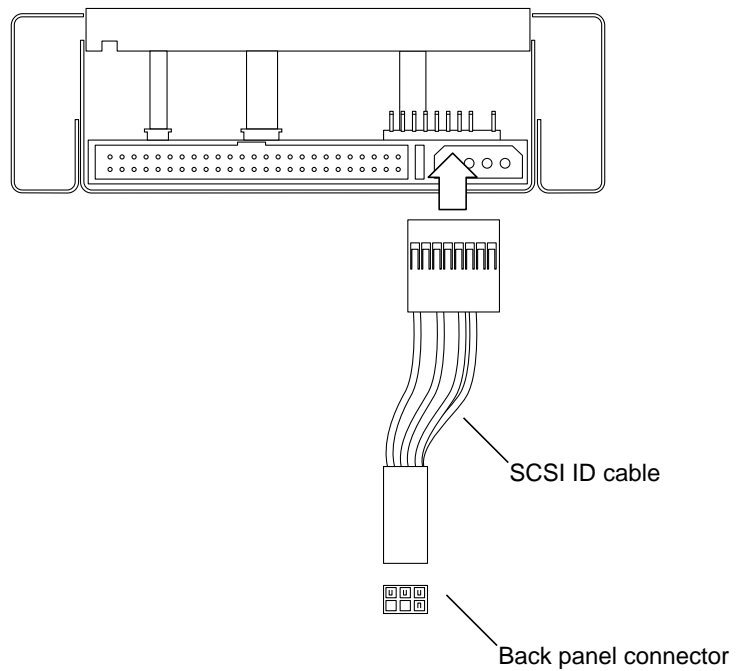

Figure 5 Location of SCSI Address Jumpers
- 1. Connect the SCSI ID cable from the target ID switch on the interior back panel of the enclosure to the ID cable on the tape drive (Figure 5).**